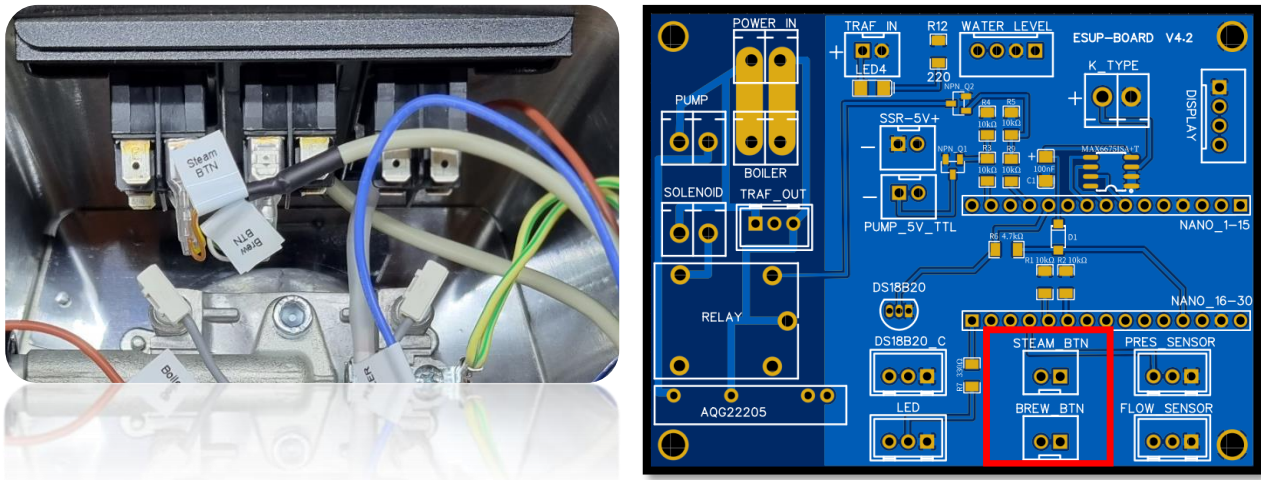

Fig. 8.1
- Take the BUTTONS CABLEs from the package and make connection between buttons panel and the main board like in fig.8.1.